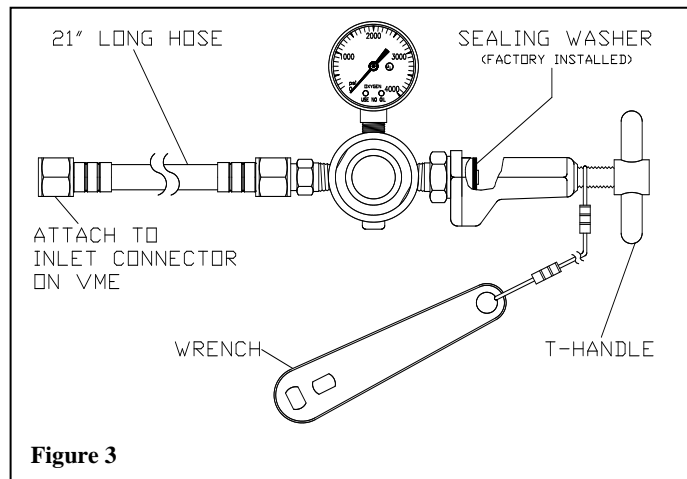

Figure 3
1. Assemble HOSE, T-HANDLE, and WRENCH as shown in Figure 3.